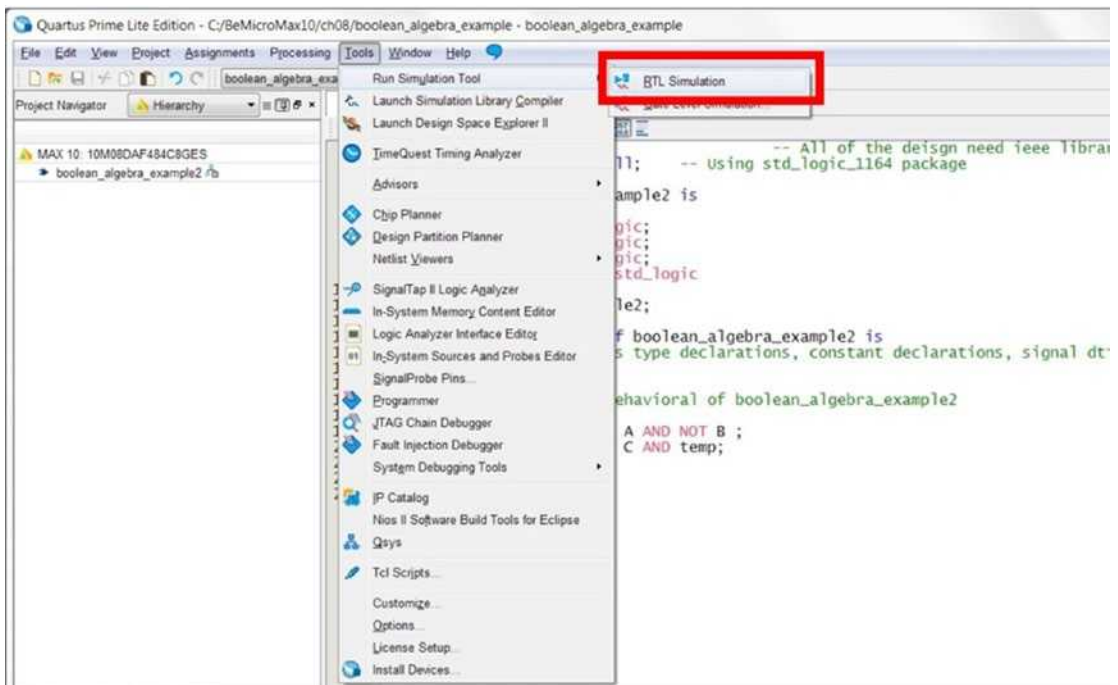
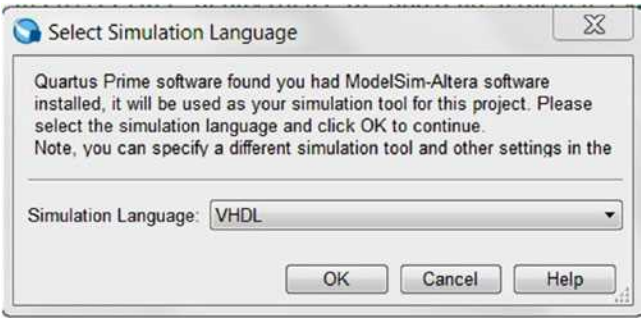

Figure 8-9. Start RTL simulation from Quartus Prime
Figure 8-10. Select Simulation Language
7. Click **Tools ► Run Simulation Tool ► RTL Simulation** from the Quartus Prime menu to start simulation (Figure 8-9). The Select Simulation Language box will pop up; select **VHDL** and click **OK** (Figure 8-10).